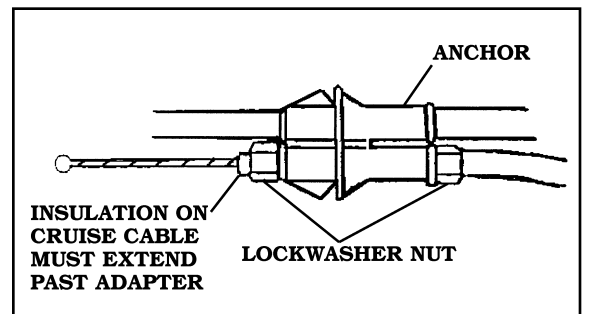

FIGURE 25
4. INSERT THE **CRUISE CABLE** THROUGH THE BLANK ANCHOR AND THREAD THE OTHER **LOCKWASHER NUT** IN PLACE. **FIGURE 25**